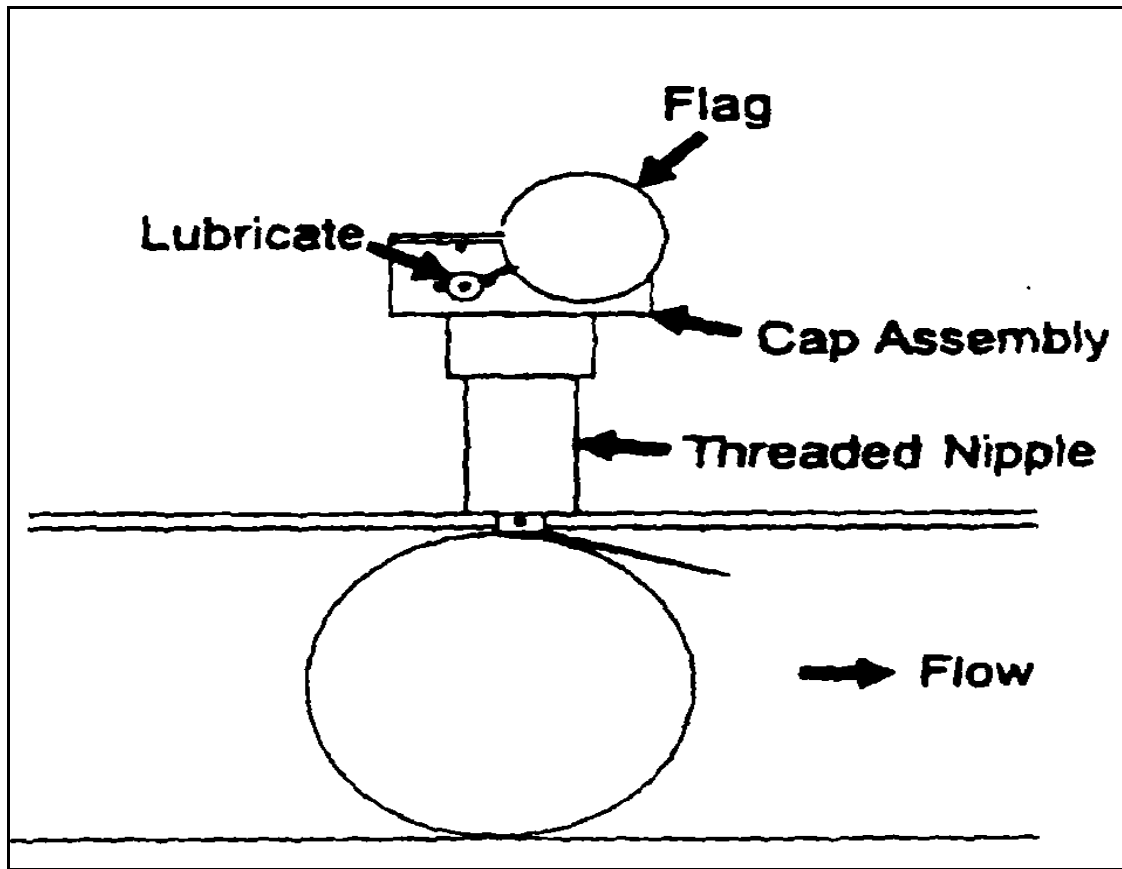

Figure 7-11. Scraper indicator
- Watch the scraper indicator (Figure 7-11) for indication that the scraper has been launched. Notify the dispatcher the moment the scraper is launched.